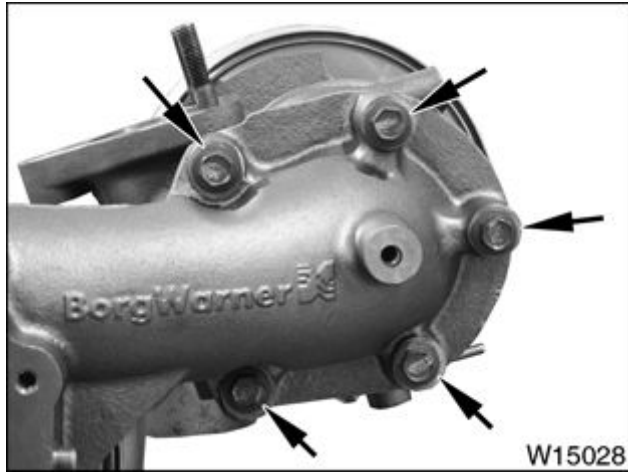

Figure 210 Low-pressure turbocharger to high-pressure turbocharger M10 x 55 hex bolts
6. 3/8–16 x 1 1/2 hex flange bolt (2)
14. If necessary, tighten five M10 x 55 bolts (Figure 210) to special torque (page 170).